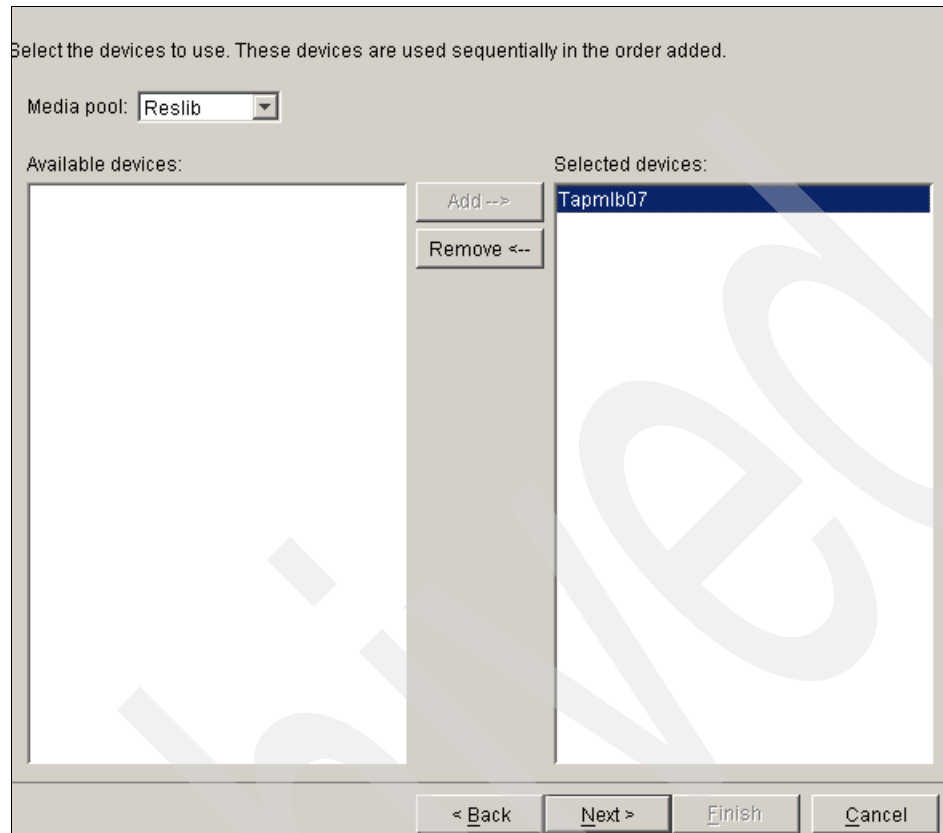

Figure 6-25 New Backup policy wizard - selected device
15. After clicking **Add**, the selected device appears in the right panel as shown in Figure 6-25. Click **Next**.